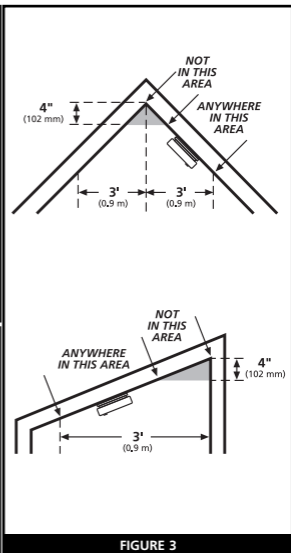

FIGURE 3
- Install Smoke Alarms on sloped, peaked or cathedral ceilings at or within 3 ft (0.9m) of the highest point (measured horizontally). NFPA 72 states: "Smoke alarms in rooms with ceiling slopes greater than 1 ft in 8 ft (.3m in 2.4m) horizontally shall be located on the high side of the room." NFPA 72 states: "A row of alarms shall be spaced and located within 3 ft (0.9m) of the peak of the ceiling measured horizontally" (see figure 3).